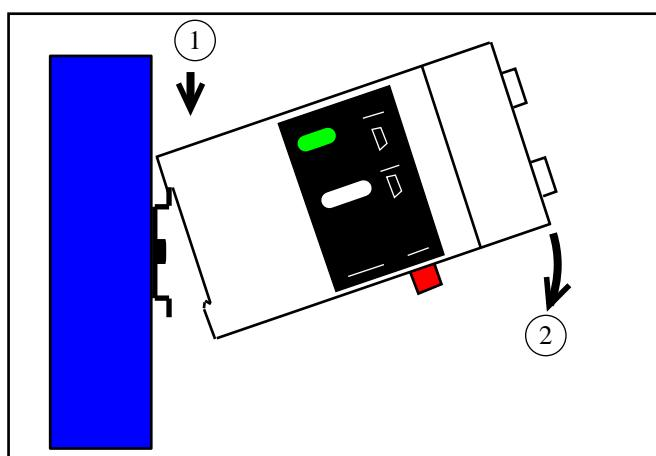

Figure 2-3 DIN Rail Mounting
- 1 Place the CAT2 on the top edge of the DIN rail as in Figure 2-3.